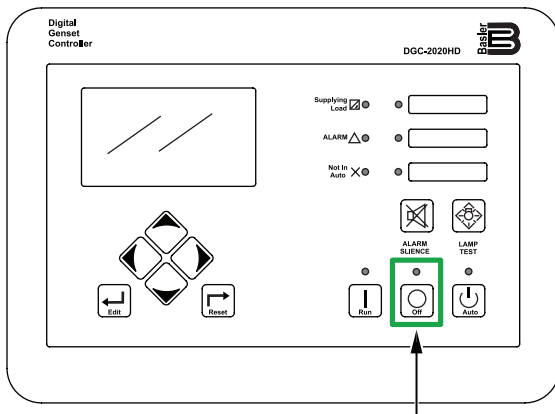

Figure 49. Digital Controller (OFF Button)
3. Press the **OFF button** on the digital controller (Figure 49) to stop the engine. The engine will stop after a 1-minute cool-down process.
When the remote contacts are opened, the engine will stop. To exit Auto mode, press the **OFF button** on the digital controller (Figure 49). The circuit breaker will automatically turn **OFF** and the engine will stop after a 1-minute cool-down process.
3. Press the **OFF button** on the digital controller (Figure 49).